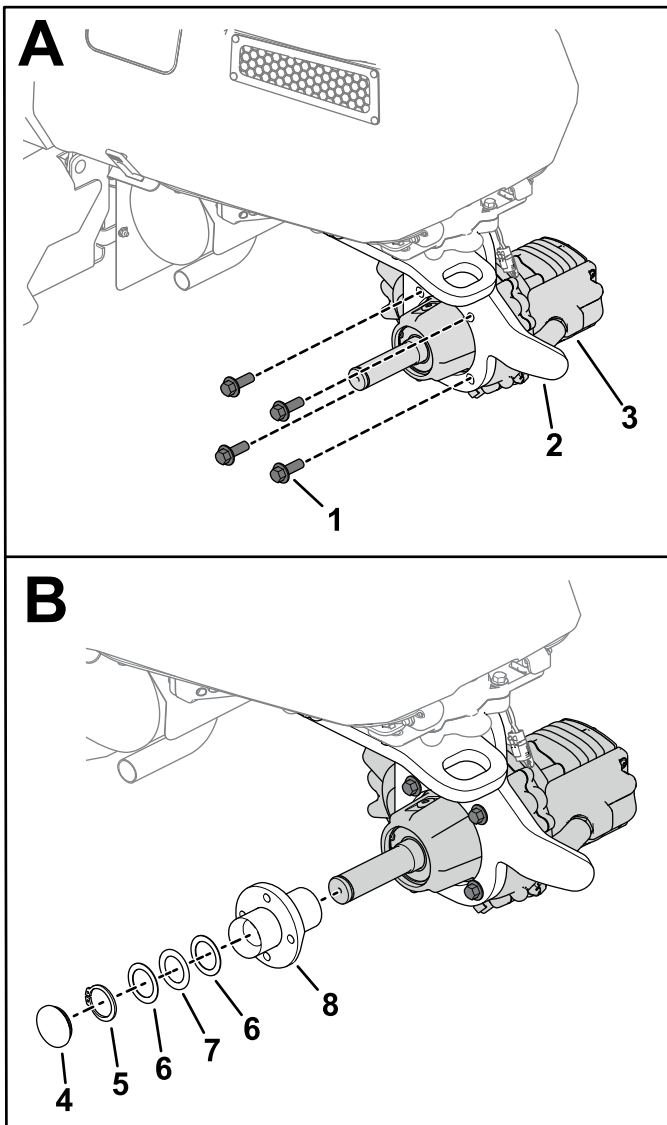

Figure 3
1. Remove the snap ring (shown in Figure 3) from the axle.
2. Remove the hub assembly (shown in Figure 3) from the gearbox.
Note: Observe the correct orientation of the gearbox as shown in Figure 3. The axle shaft should point toward the left side of the machine.
4. Use 4 bolts (M12) to secure the gearbox to the castor fork (A in Figure 3).
6. Install the hub assembly, snap ring, and dust cap with O-ring on the axle shaft (B in Figure 3).
Note: If the thrust washers and bearing are removed from the hub assembly, assemble them as shown in Figure 3.